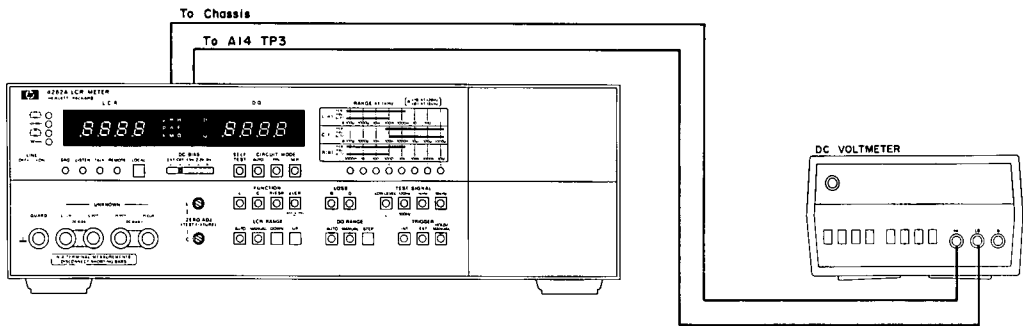

Figure 5-9. A14 Phase Detector & Integrator Adjustment.
(1) OFS - 4 ADJUSTMENT.
- a. Connect DC voltmeter minus input to test point A14TP3 and plus input to 4262A chassis with dual banana plug to alligator clip cable. See Figure 5-9.